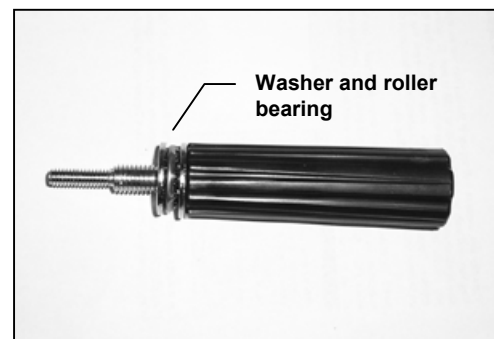

Figure 6 – Handle with bearing attaches to focuser side of base
2. Insert the handle containing the roller bearing (see Figure 6) through the side panel of the base and into the hole of the altitude bearing located on the same side as the focuser. Turn clockwise to tighten.